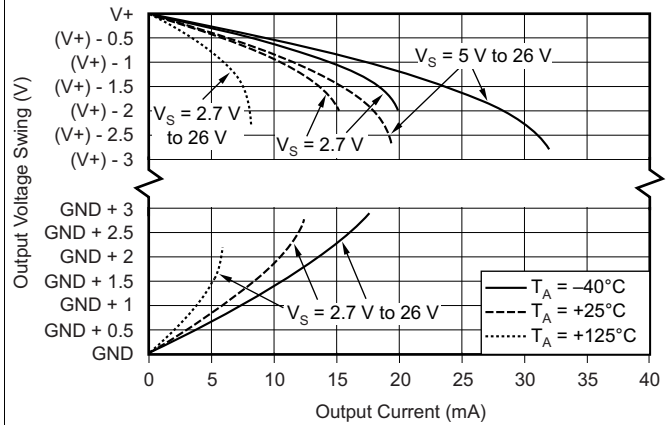

Figure 10. Output Voltage Swing vs Output Current
(1) RTI = referred to input.
(2) Not production tested.
(3) See Figure 10 in *Typical Characteristics*.